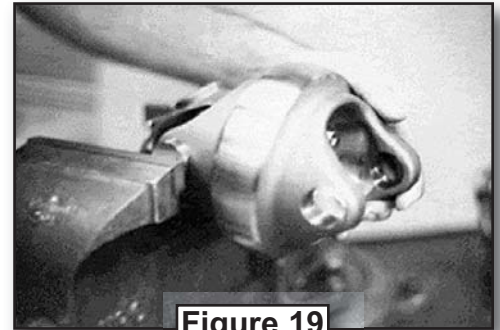

Figure 19
19. Put the center housing into the vise so the bearing cups are square with the jaws of the vise. Make sure the trunnions are aligned with the bearing cups. Tighten the vise until both bearing cups are flush with the ears. Make sure the needle rollers do not fall out of the bearing cups (see *Figure 19*).